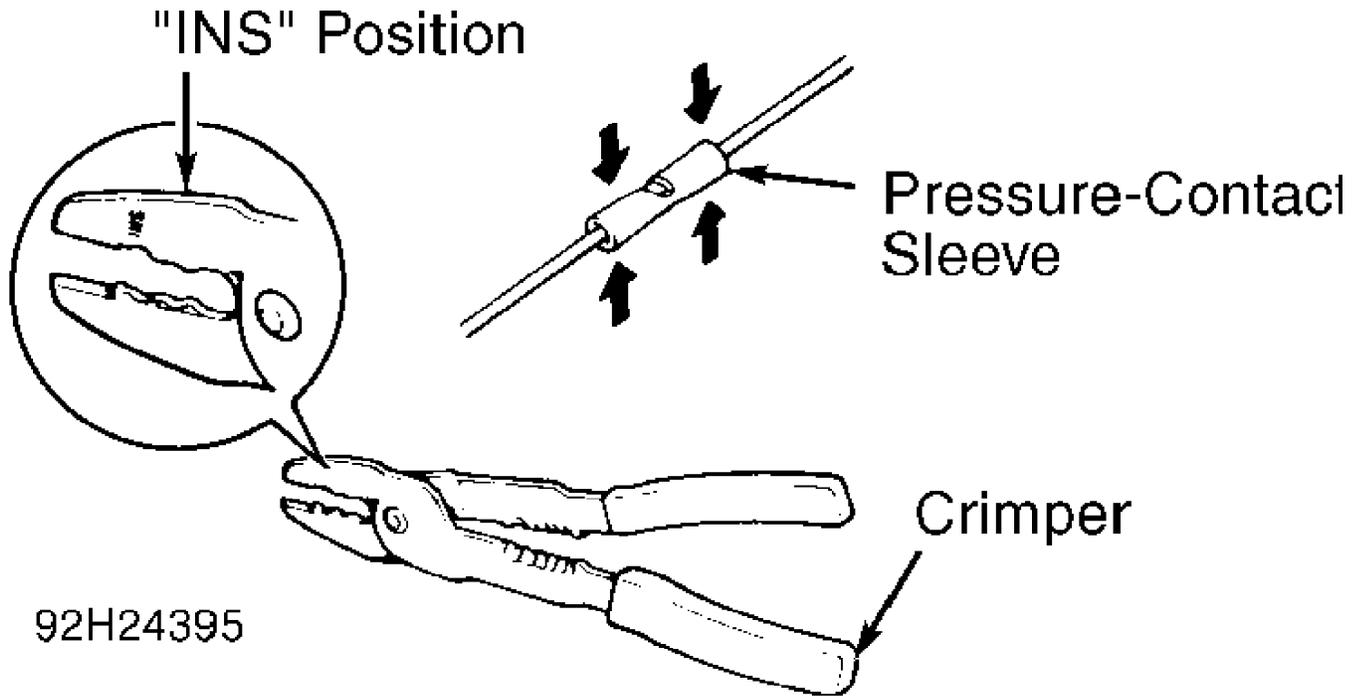

Fig. 8: Crimping Pressure-Contact Sleeve
3) Pull joined wires on both ends to ensure a secure crimp. Crimp both ends of sleeve using crimper at INS position. See Fig. 8. Thoroughly wrap silicon tape around joint for protection.